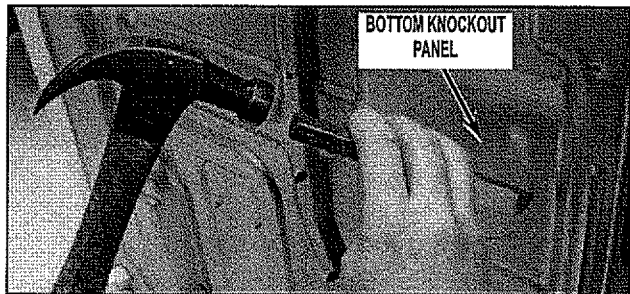

FIGURE 13
- Using two (2) corner posts from the shipping carton or other protective material on the floor beside the dryer, gently lay dryer on its left side.
- To remove the dryer base knockout, use either a 1/8" drill bit and drill or a cold chisel and hammer, remove the six (6) knockout retaining tabs around its edge. See *Figure 13*.